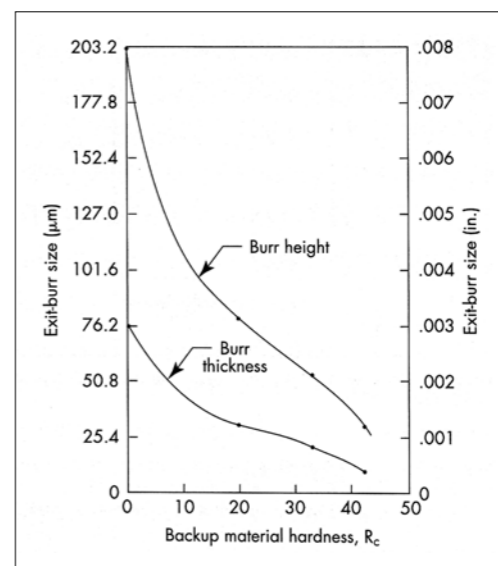

Figure 2: Impact of backup material's hardness on burr size of drilled holes.
- Prevent large exit burrs when drilling by using sacrificial backup material that is harder than the workpiece. The backup material, positioned at the bottom of the hole, pushes back on the bottom of the workpiece, which helps prevent burr formation. In this procedure, it is essential to keep the materials held tightly against each other. The corner of the drill's cutting edge must cut into the backup to effectively reduce burrs. For drills smaller than 1/8", machinists should drill 0.010" into the backup. A rule of thumb is that the larger the drill diameter, the deeper into the backup material the tool should cut. Figure 2 shows how drill exit-burr size varies when a backup material is used. In this case, the material being drilled is 303 Se stainless.